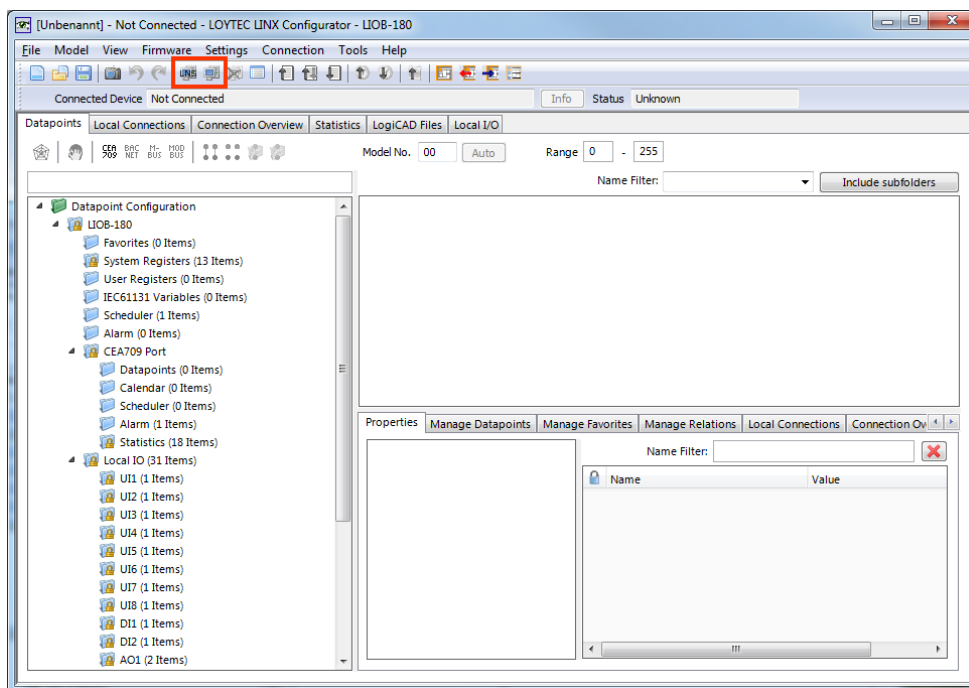

Figure 39: L-INX Configurator main screen
1. Start the L-INX Configurator software by selecting Windows **Start** → **Programs** → **LOYTEC LINX Configurator** → **LOYTEC LINX Configurator**. The application starts up and displays the data point manager screen as shown in Figure 39.
2. When the device is online, connect to the device by clicking on the LNS or device connect speed button as indicated by the red rectangle in Figure 39.